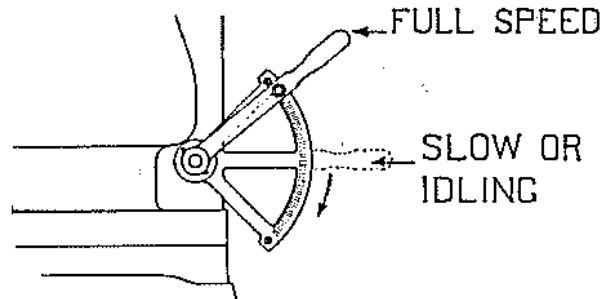

Fig. 6—Intake Air Damper Lever.
1. Immediately close air damper shown on Fig. 6, page 20 to choke engine and prevent racing due to priming. Open to running position as soon as engine has burned the priming charge.
2. Close air damper shown on Fig. 6, page 20 slightly.
2. Put air damper lever Fig. 6, page 20 down to partially closed position, or lower, wherever engine runs best.
62—Intake Air Dampers—Each cylinder is provided with a damper valve in the intake air passage. The valves are controlled by a single lever located directly below the speed controls. See Fig. 6 above. This lever should always be up when the engine is running at full speed, and may be closed slightly when running slow. When the engine is idled or operated with clutch in neutral, place the lever in the half way position or below this. The exact location varies with conditions, and the engineer should determine the position at which the engine runs best when idling.